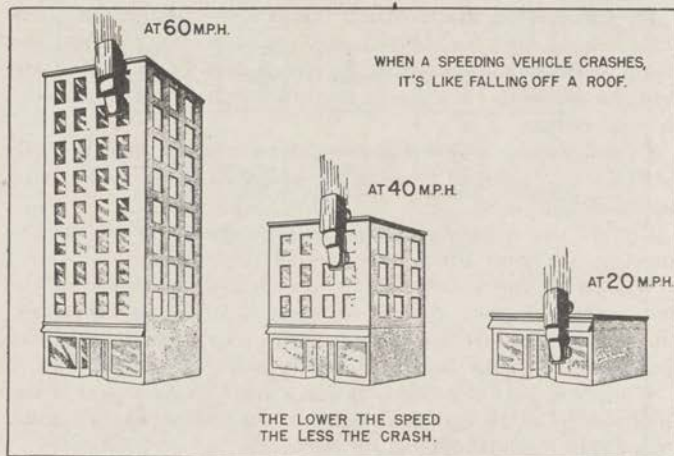

FIGURE 22.
45. SPEED INCREASES DANGER IN FOUR WAYS.—One quarter of all fatal motor vehicle accidents in the United States involve excessive speed by one or more drivers. (See fig. 22.) High speed increases danger in four ways: